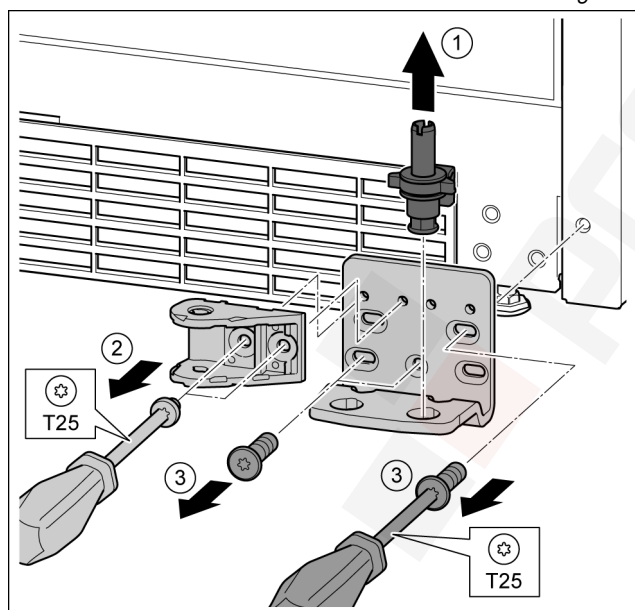

Fig. 29
- ▶ Lift the bearing pin completely upward and remove. *Fig. 29 (1)*
- ▶ Remove the screws with the T25 screwdriver and remove the soft stop connection. *Fig. 29 (2) \**
- ▶ Undo the screws with a T25 screwdriver and remove the bearing bracket *Fig. 29 (3)*